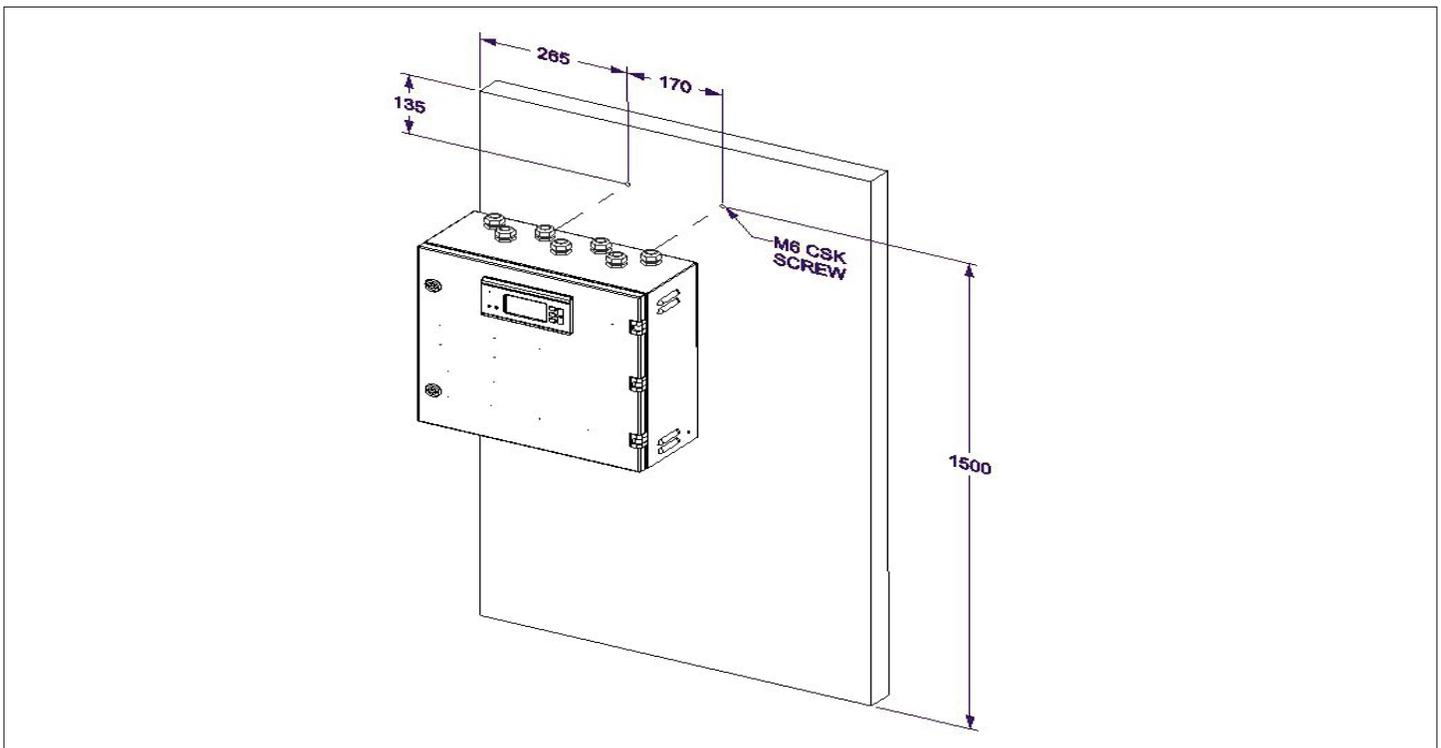

Figure 2-17 Mounting Arrangement of Display Screen
1. Figure 2-17 shows the mounting arrangement of control panel. Surrounding clear spacing shall be in accordance with Figure 2-5. Put two screws (M6 CSK) into the wall at the location as depicted in the illustration.